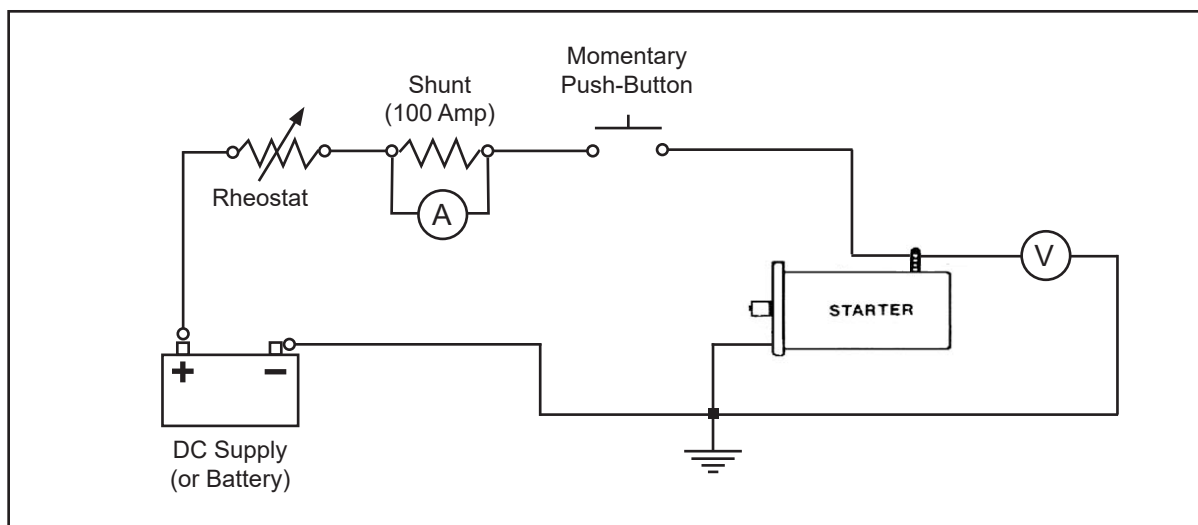

Figure 5-3 - Starter Test Set-up
- (1) Fabricate the test set-up as shown in Figure 5-3.